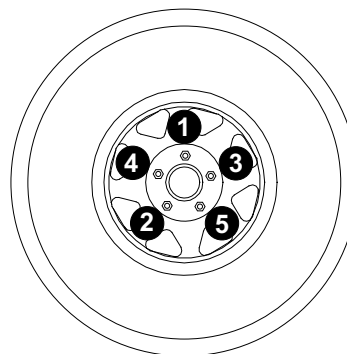

Figure 3-11. Tightening Wheel Lugs
7. See Figure 3-11. Check the wheel lugs. Tighten or replace any lugs that are loose or missing. If a tire has been removed for axle service or replaced, tighten the lugs, in the order shown, to the following specifications: